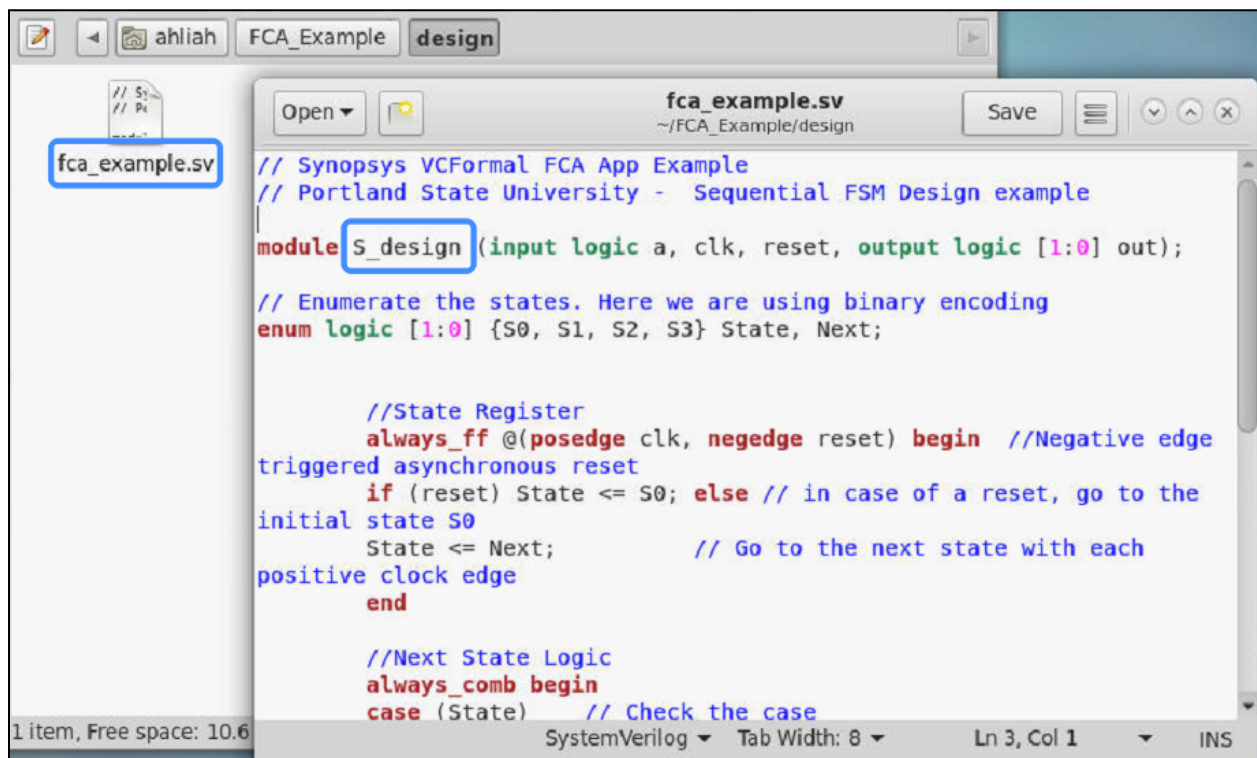

Figure 1.3. Example of the design we are using in this tutorial.
In order for VC Formal to map your design, you need to acknowledge and **keep note of your exact module name AND your file name**, as highlighted in Figure 1.3 above. This will come in handy when you create your TCL file.
- (1) Instruction that sets the appmode to FCA in VC Formal.
- (2) Name of the main module as established in the Design file.
- (3) Design file location so VC Formal knows where to find the file.
- (4) Identifier for FCA coverage metrics. Here we will enable all.
As mentioned before, VC Formal is case sensitive, and in order for it to map your designs, you will need to use the same module name in the TCL script (2) and the module name in the design file. For example, we can see that our module name in the TCL script is the same as the module name in the design file in Figure 1.3.